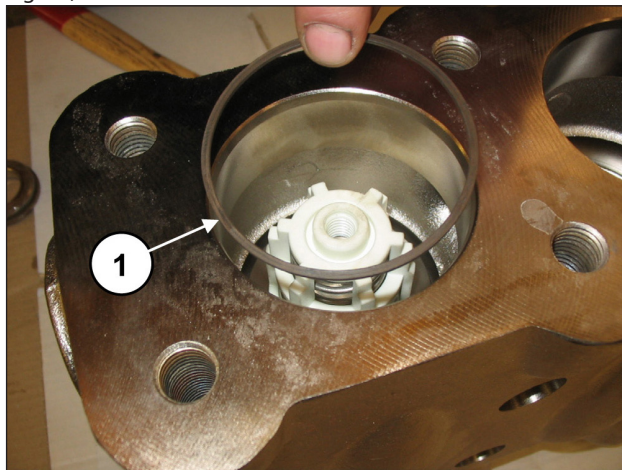

Fig. 99
Insert the anti-extrusion ring, exploded view pos. 16 (pos. ①, Fig. 99).